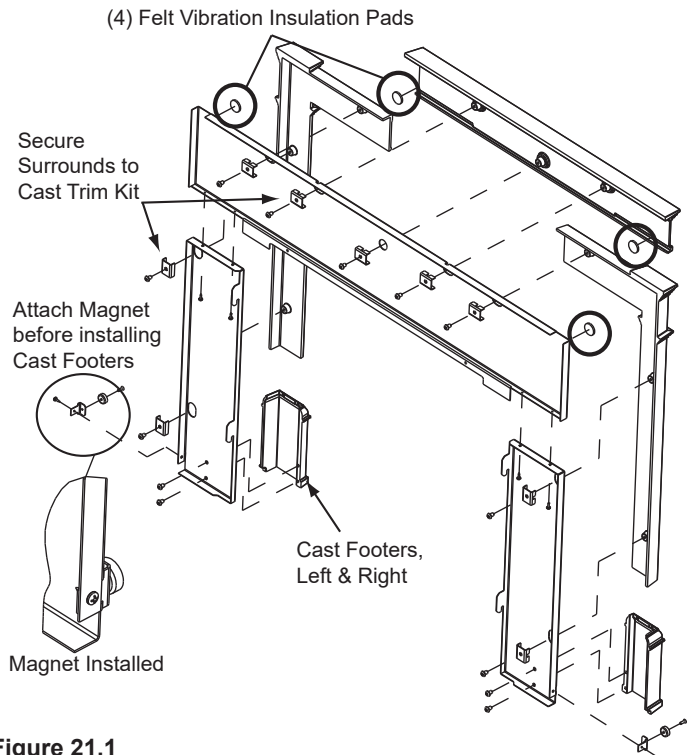

Figure 21.1
3. Using a 4 to 6 inches long Phillips head screw driver attach the side surrounds to the top surround using (2) #8 sheet metal screws on each side provided with the kit
4. Place the peel and stick round felt vibration insulation pads on the front side in each corner of the top metal piece and on the back side in each corner of the top cast piece (**Figure 21.1**).